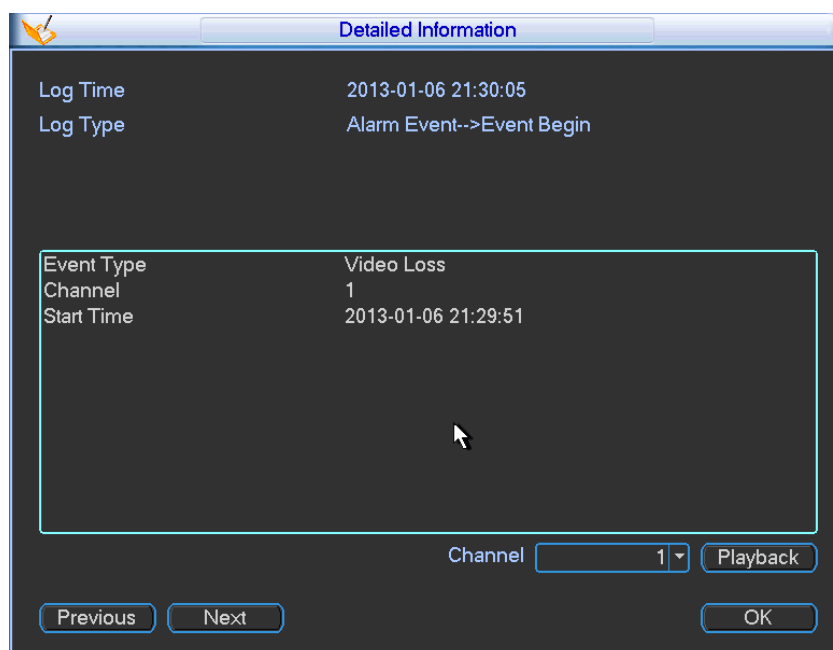

Figure 5-73
- Details: Click the Details button or double click the log item, you can view the detailed information. See Figure 5-73. Here you can use rolling bar to view information, or you can use Page up/Page down to view other log information. For the alarm event log such as video loss, you can click the Playback button at the bottom right corner to playback.